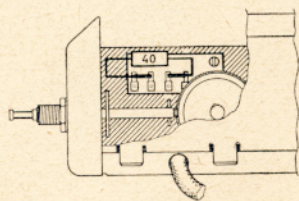

Fig. 1
1. Reconnect the heater circuit in accordance with Fig. 1 or 2.